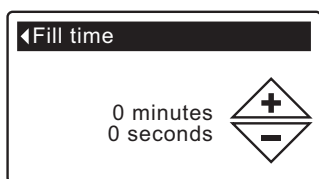

FIG. 56
- 8f. **Fast rinse time:** Press the UP (▲) or DOWN (▼) buttons to change the fast rinse time. Hold the button down to rapidly advance. The fast rinse time can be set from 1 to 99 minutes\* (See Figure 56).